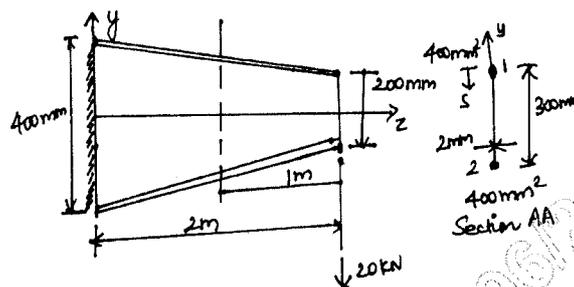

Fig Q7
- 7 Determine the shear flow distribution in the web of the tapered beam shown in Fig Q7(a) at a section midway along its length. The web of the beam has a thickness of 2mm and is fully effective in resisting direct stress. The beam tapers symmetrically about its horizontal centroidal axis and the cross sectional area of each flange is 400mm^2 . The internal bending moment and shear load at the section A-A produced by external load are $M_x = 20\text{kNm}$ and $S_y = -20\text{kN}$. (16 Marks)